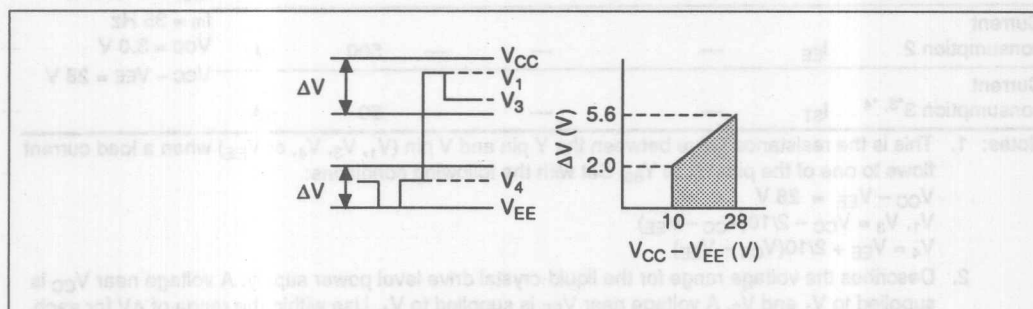

Figure 3 Relationship between Driver Output Waveform and Level Voltages
- Describes the voltage range for the liquid-crystal drive level power supply. A voltage near  $V_{\text{CC}}$  is supplied to  $V_1$  and  $V_3$ . A voltage near  $V_{\text{EE}}$  is supplied to  $V_4$ . Use within the range of  $\Delta V$  for each. These ranges should be set so that the impedance ROM of the driver output obtained is stable. Note also that  $\Delta V$  depends on the power supply voltage ( $V_{\text{CC}} - V_{\text{EE}}$ ). See figure 3.
- Describes the voltage range for the liquid-crystal drive level power supply. A voltage near  $V_{CC}$  is supplied to  $V_1$  and  $V_3$ . A voltage near  $V_{EE}$  is supplied to  $V_4$ . Use within the range of  $\Delta V$  for each. These ranges should be set so that the impedance ROM of the driver output obtained is stable. Note also that  $\Delta V$  depends on the power supply voltage ( $V_{CC} - V_{EE}$ ). See figure 3.
**Table 4 AC Characteristics (1)** (Unless otherwise specified,  $V_{CC} = 5.0 \text{ V} \pm 10\%$ ,  $GND = 0 \text{ V}$ ,  $T_a = -20 \text{ to } +75^\circ\text{C}$ )